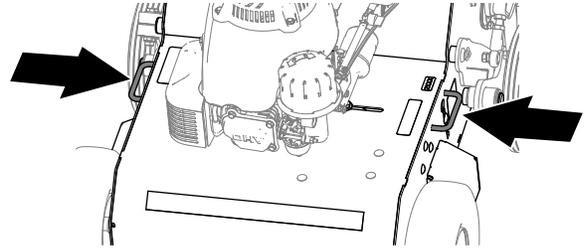

Figure 24
7. Secure the machine to the trailer with chains or straps using the tie-down/lift loops (Figure 24).